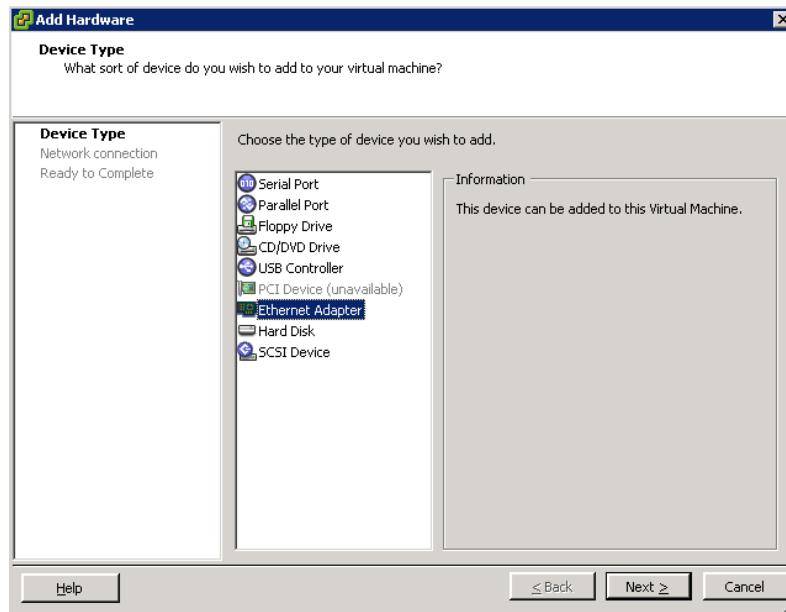

Figure 5-33. Add Hardware—Select Adapter
7. Select the Ethernet adapter device, and then click **Next** (Figure 5-33).